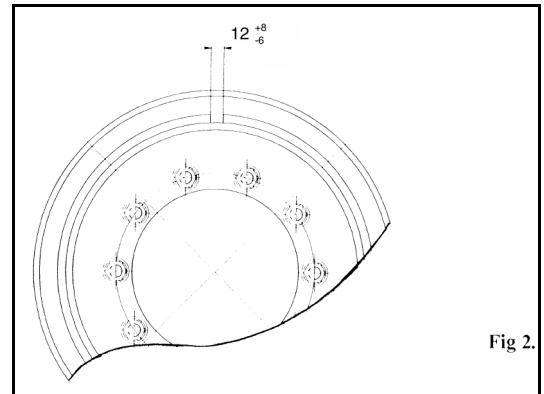

Fig 2.
- Insert the lock-ring with the aid of specific tools or with levers and a suitable mallet. Check correct seating of the lock-ring by measuring the dimension of the gap shown in Fig. 2.